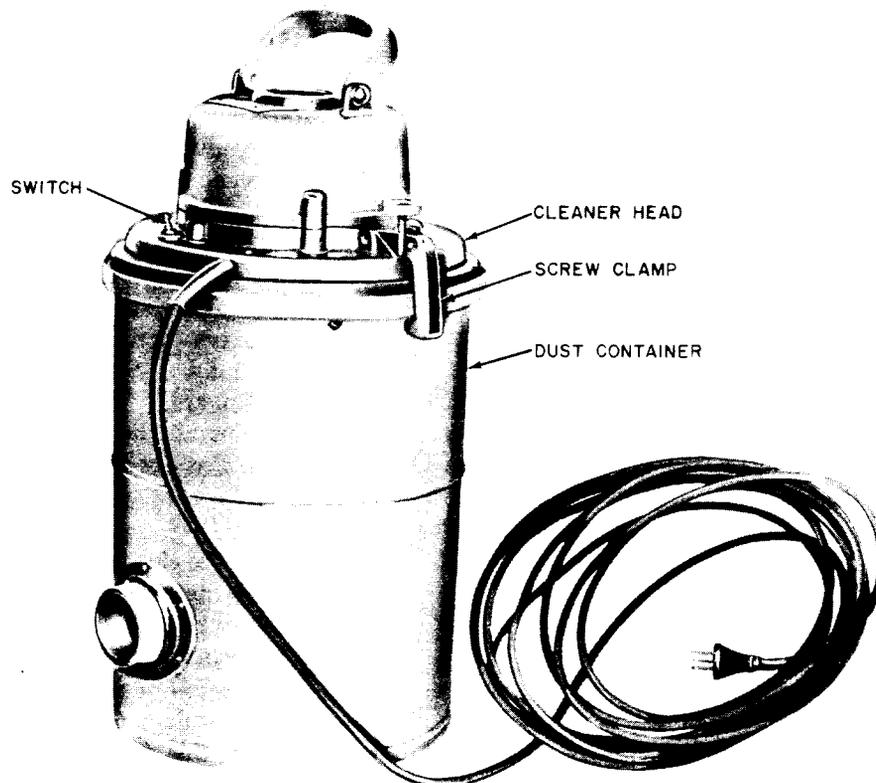

Fig. 1—KS-14377 Type Vacuum Cleaner
1.01 This section covers the portable KS-14377 type vacuum cleaner (Fig. 1).